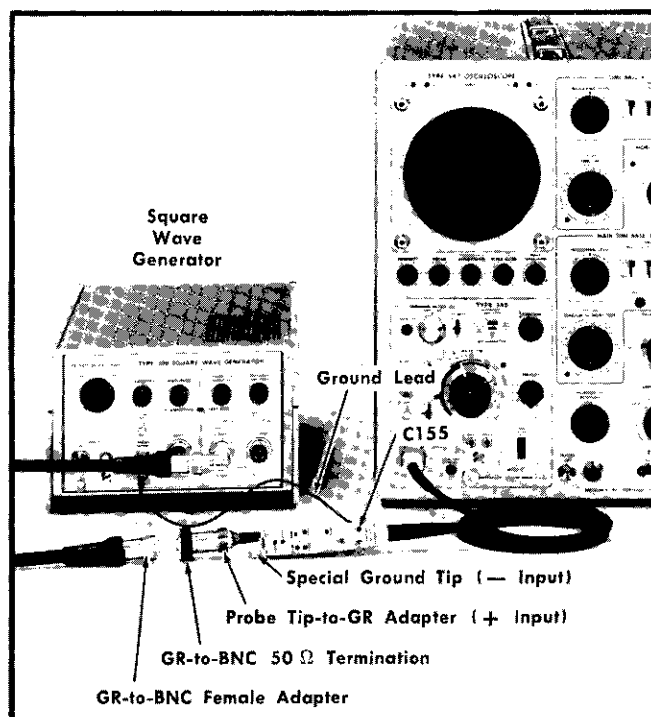
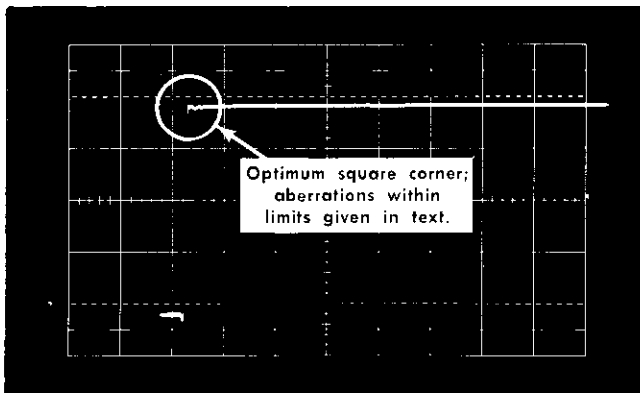

Fig. 6-9. Equipment setup for transient response adjustment, step 6.
Fig. 6-10. Transient response waveform, step 6. Sweep rate 0.1 μ s/div; deflection factor 20 mV/div.
a. The preliminary control settings apply. The equipment setup and adjustment location appear in Fig. 6-9.
i. Adjust the Oscilloscope triggering and horizontal position controls to center the display as shown in Fig. 6-10.
l. ADJUST—C155 (Fig. 6-9) for optimum transient response as exhibited by optimum squareness at the upper leading corner of the square wave. Rounding, overshoot and tilt should be within the following values. Use Fig. 6-10 as a guide.